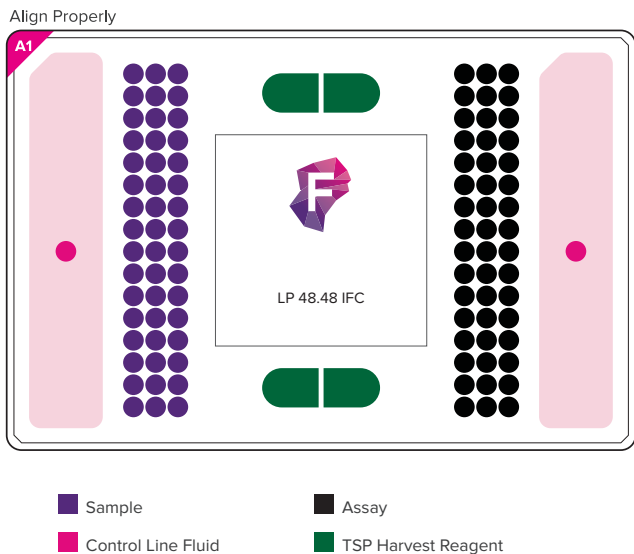

Figure 3. Map of the LP 48.48 IFC
- 5 Load an entire syringe of LP 48.48 Control Line Fluid into one accumulator and a second syringe into the other accumulator (dark pink circles in Figure 3). Use only LP 48.48 Control Line Fluid.
- 6 Pipet 650 μ L of TSP Harvest Reagent (PN 101-0743) into each of the H1, H2, H3, and H4 harvest reservoirs (green hemispheres in Figure 3).
- 3 Pipet 4.0 μ L of each 20X assay pool into an assay inlet on the IFC. [See Figure 3 (black circles) and the IFC pipetting scheme in Figure 4.]
- 4 Pipet 4.0 μ L of each sample mix into a sample inlet on the IFC. [See Figure 3 (dark purple circles) and the IFC pipetting scheme in Figure 4.]